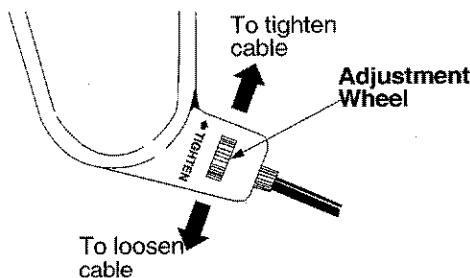

Figure 23
- To resolve the above problems, rotate the adjustment wheel with your fingers: clockwise to tighten the cable, and counter-clockwise to loosen the cable. See Figure 23.